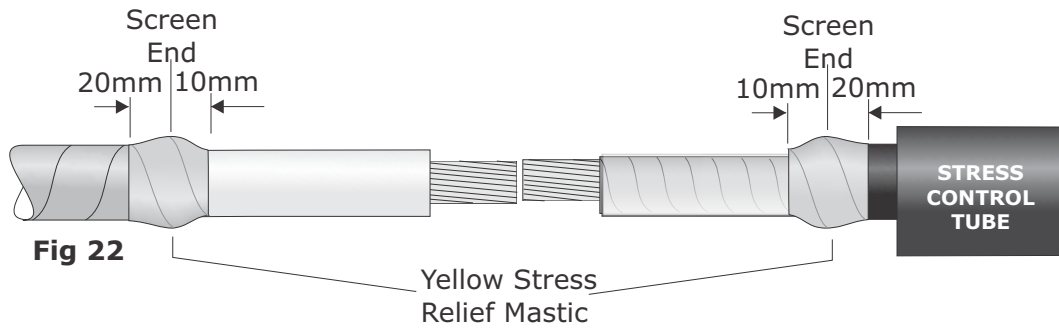

Fig 22
27. On the PILC cable end, stretch the yellow stress relief tape and apply 20mm over the end of the semi-conductive tubing, extending onto the clear tube by 10mm (Fig 22).